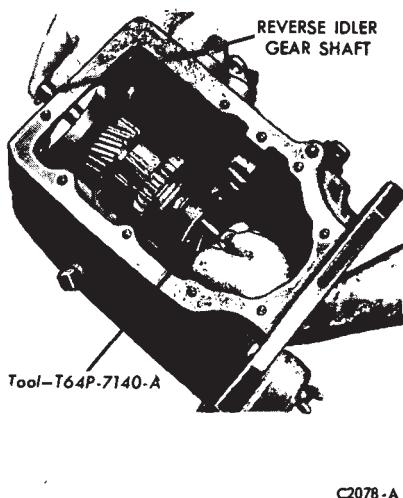

FIG. 12—Removing Reverse Idler Gear Shaft
19. Remove the reverse idler gear shaft from the case as shown in Fig. 12.